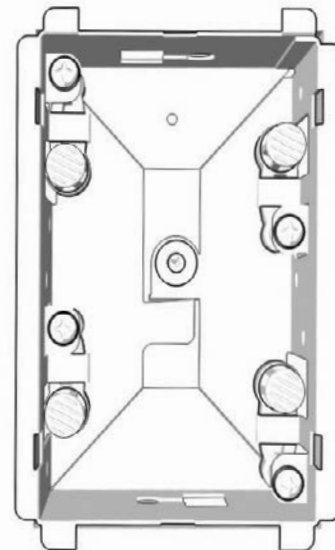

Figure 5: Roto-Lock Screw Locations
7. Hand-tighten the four Roto-Lock screws on the KP-iOS mounting frame as shown in **Figure 5**. The Roto-Lock clamps will automatically rotate into position behind the wall and begin clamping the mount.